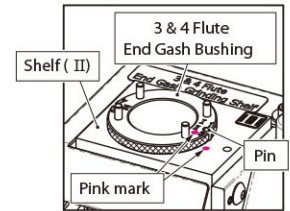

Fig. 9-2
2. End Gash Grinding Shelf (II) (Fig. 9-2)